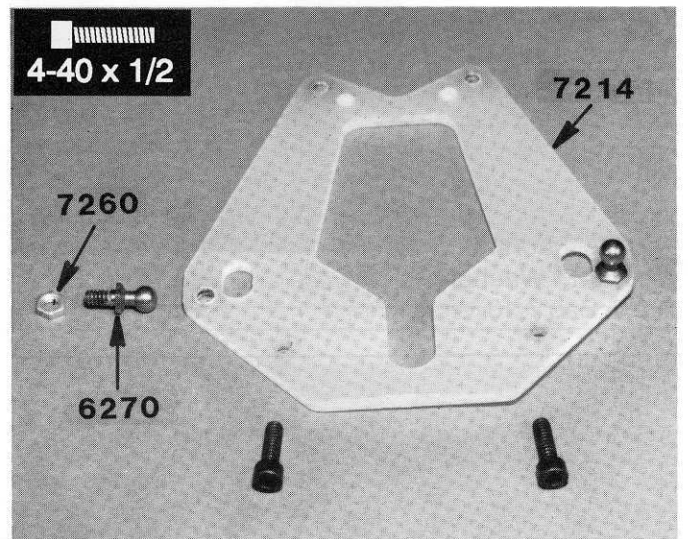

**Fig. 10**
□ **Figs. 10 & 11** From Bag #7-1 take out the #7207 front bulkhead, the #7208 aluminum support and the #7209 inner hinge pins. Try the pins in the A-arms again and see how they fit. Free them up if necessary. We want the pins to be tight in the bulkhead. Assemble the front arms to the bulkhead as shown. Secure with e-clips.